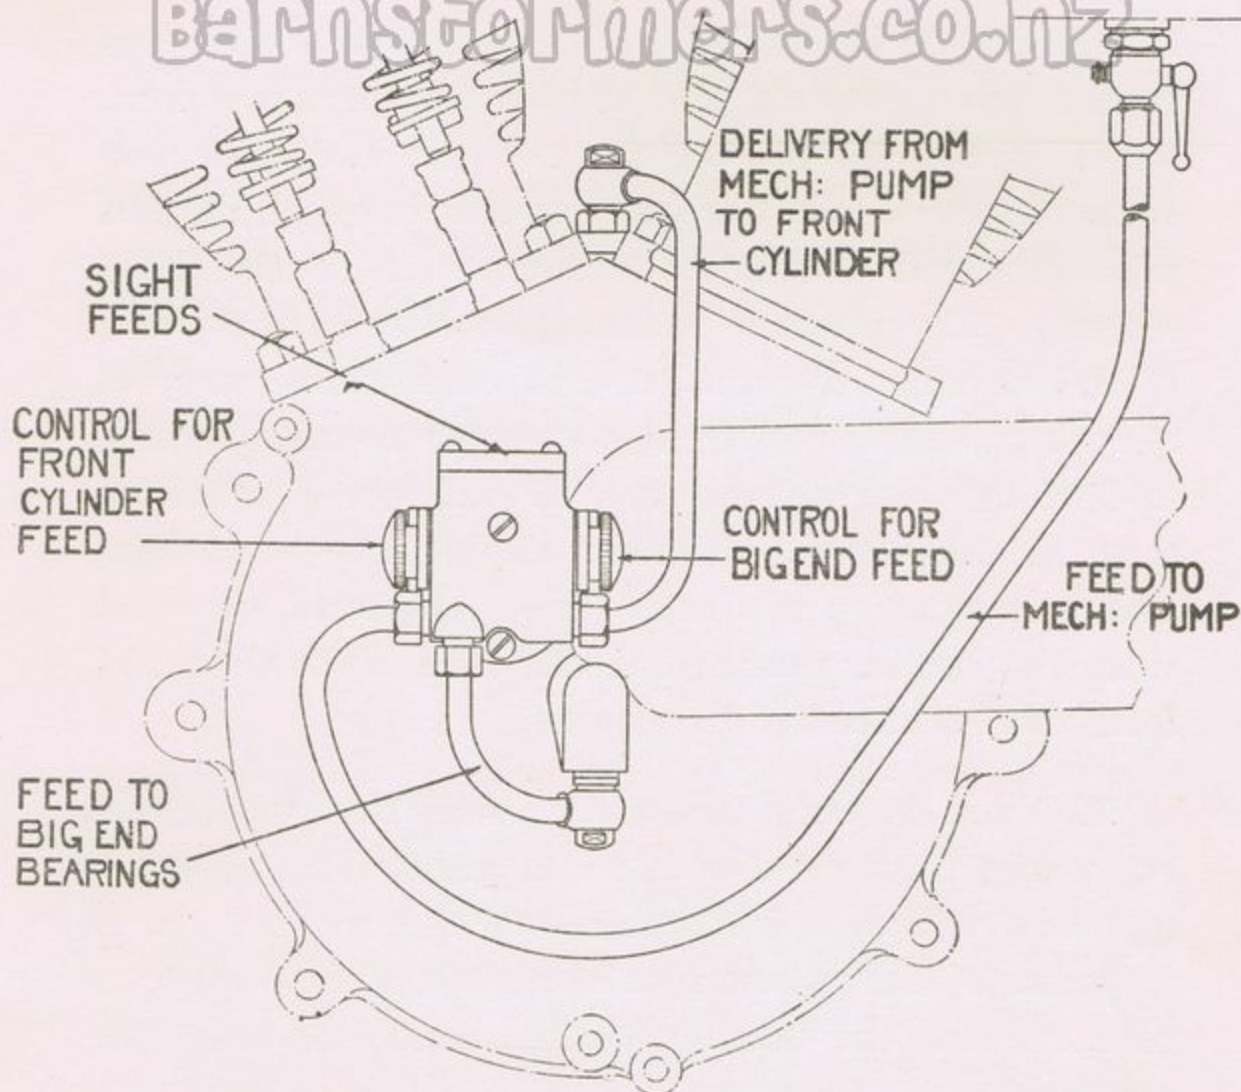

Fig. 5.
**GRAVITY FEED SYSTEM—1934 to 1936 (twin cylinder models)** (Fig 5). The duplex "Pilgrim" oil pump (see note on Pilgrim oil pump, page 14) is supplied with oil from the compartment in the tank, as with the earlier system. One pipe is used for the supply of both pumps, which are otherwise quite distinct. The outer pump, with its control at the front supplies the big-end bearing and other parts, while the inner pump, with its control at the rear, supplies the front cylinder. Each control is adjustable and turning anti-clockwise increases the flow. The oil can be seen flowing